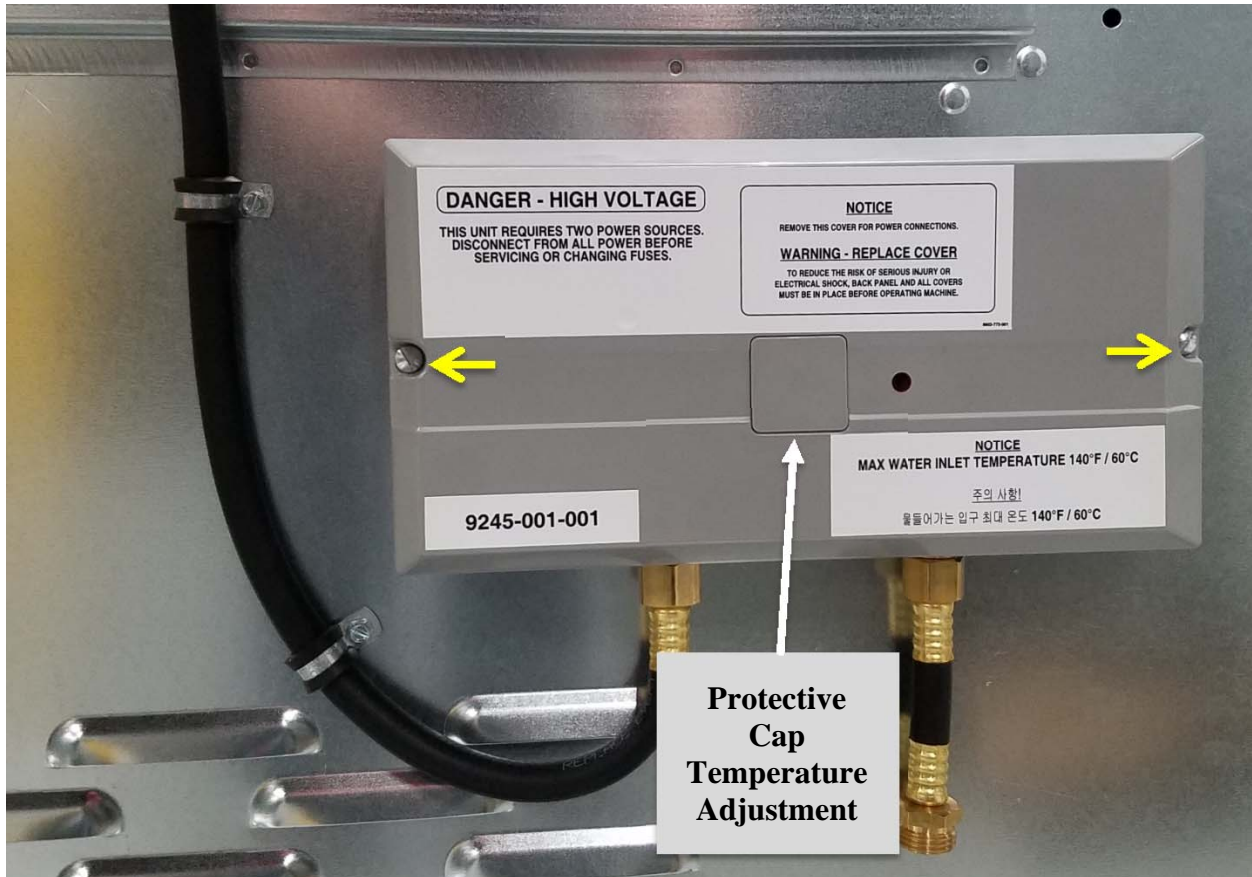
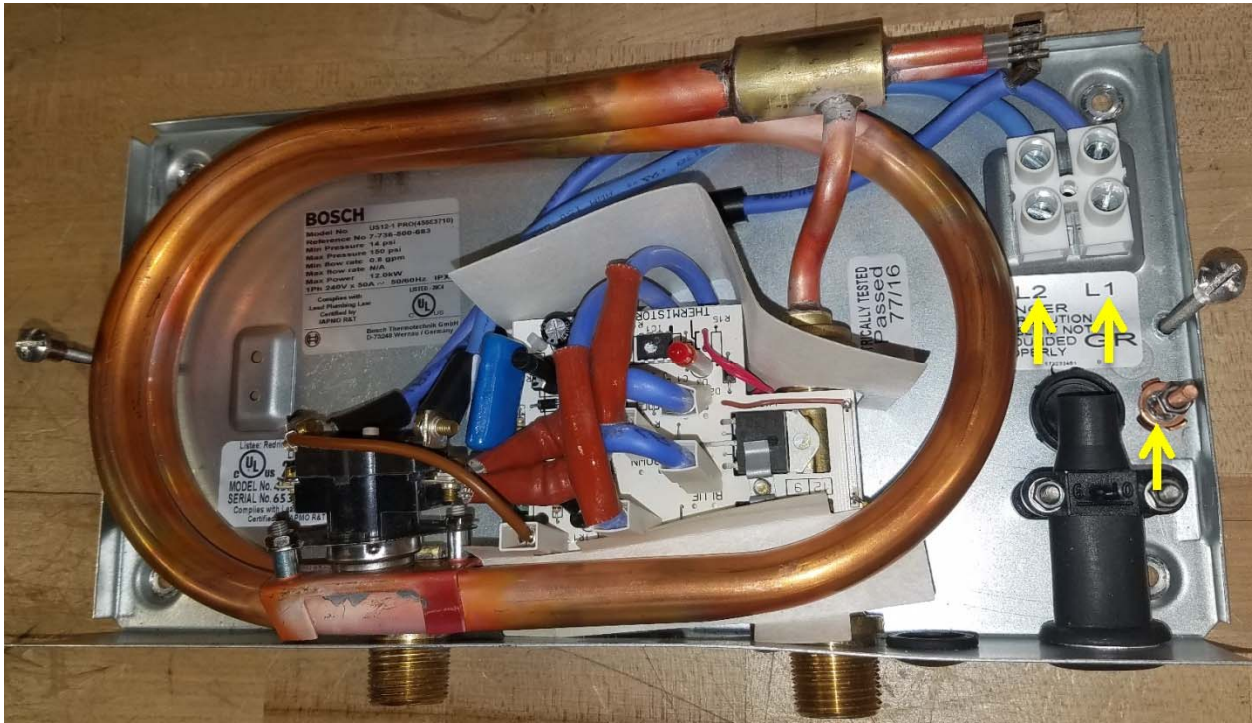

Figure 2
Figure 7
Remove the cover of the heating unit by loosening the screws (Figure 2). This will expose the heater four (4) holes at the each corner (Figure 3).
Notice: To reinstall the Heating Unit cover, remove the square protective cap located in the center of the Heating unit to expose the temperature adjustment spindle location (Figure 2). To avoid damage, use extra care when installing cover to ensure the adjustment spindle engages the cover.
2. Remove the top cover of the heating unit by loosening and removing the two (2) screws (Figure 2). If power is 220-1PH-60Hz, connect L1, L2 and Ground (Figure 7).
4. Reinstall the cover prior to operation. To reinstall the Heating Unit cover, remove the square protective cap located in the center of the Heating unit to expose the temperature adjustment spindle location (Figure 2). To avoid damage, use extra care when installing cover to ensure the adjustment spindle engages the cover.